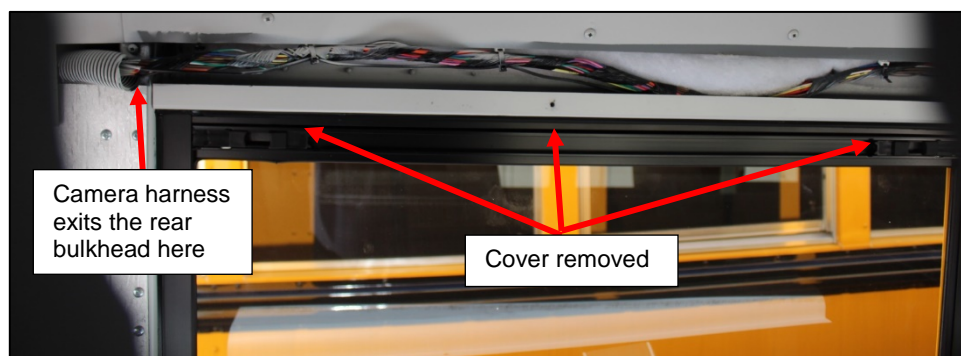

Figure 5: Routing the Main Body Harness Along the Driver's Side of the Bus
6. Cover the camera harness with loom and route above the windows on the driver's side of the bus. See **Figure 5**.